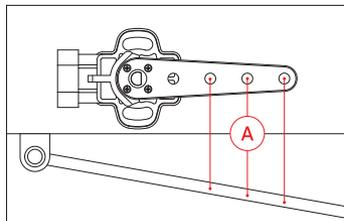

Abb. 23: Coupling rod attachment point
1. Attach the sensor to the vehicle and place the sensor arm in the center position. Disconnect the air line from the air bellows and raise the suspension to the lower end stop of the chassis using a gear jack. Measure the distance [A] from the selected attachment point of the coupling rod (Fig. 23). Make sure that the attachment points are suitable for the entire travel distance of the trolley/vehicle.